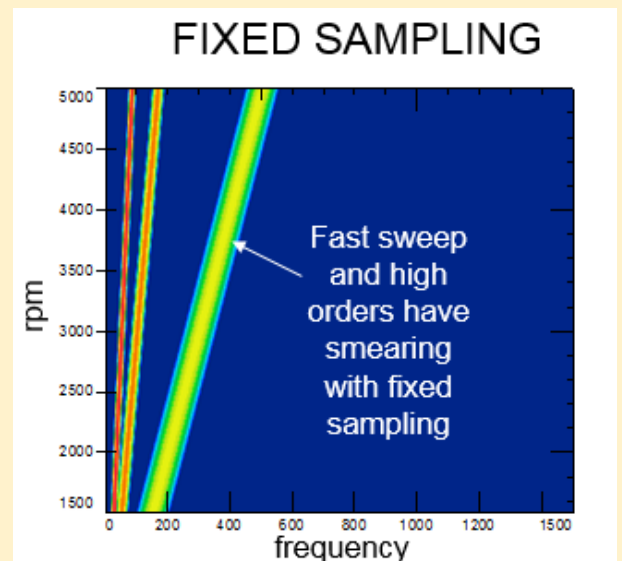

Fig 2
2. When the object under test runs at fast varying speeds or has events that changes rapidly, the data integrity is compromised resulting in leakage of signal. This can be seen as shown in **Fig 2**.